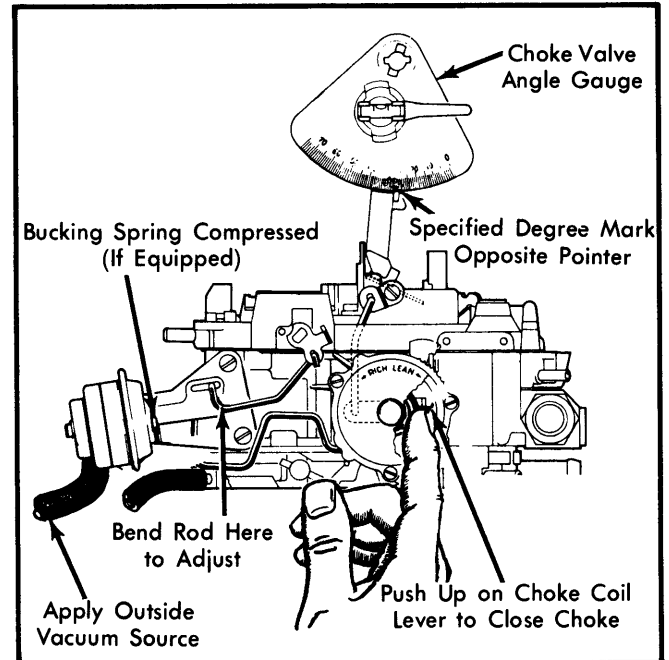

Fig. 9 Adjusting Rear Vacuum Break
1) Using an outside vacuum source of at least 15 in. Hg, seat rear vacuum break diaphragm. See Fig. 9.
4) To adjust, bend secondary (rear) vacuum break rod at point shown in Fig. 9 until bubble of choke valve angle gauge is centered. Do not turn screw in end of diaphragm.